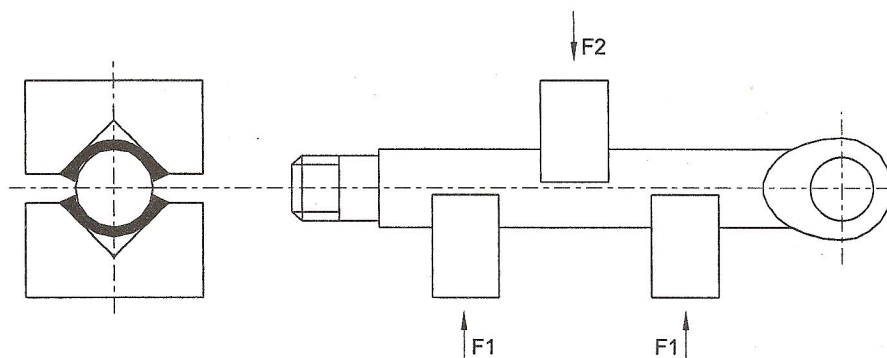

Fig. 09-05 Correction sketch of piston rod
- 3) If the piston rod is bending, make correction by the method of static pressure cold correction (See Fig. 09-05). When doing correction, the two points of the fulcrum bearing and the pressing point of the oil pressure should be cushioned with copper sheet, aluminum sheet or wool felt etc, and check with clock gauge for several times. After the linearity meets with the requirement, grind, chromeplate and polish it again.